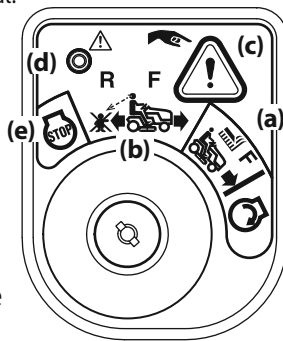

Figure 19
3. Press and hold the REVERSE CAUTION MODE BUTTON (c) at the top, right corner of the ignition module for 3 seconds. The red indicator light (d) at the top, left corner of the ignition module will be ON while activated. See Figure 19.
4. Once activated (indicator light ON), the tractor can be driven in reverse with the PTO (Blade Engage) in the engaged (ON) position.